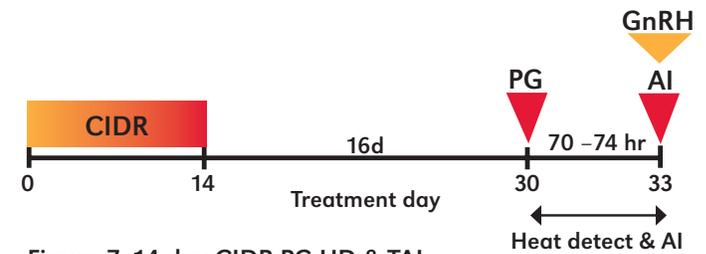

Figure 7. 14-day CIDR-PG HD & TAI.
**14-day CIDR-PG HD & TAI** (Figure 7). A CIDR is in place for 14 days. Sixteen days (day 30 of the initiation of the protocol) after CIDR removal, heifers are injected with a single dose of prostaglandin. Detect heifers for estrus and inseminate 12 hours after detecting estrus. On day 33 of the protocol (70 to 74 hours